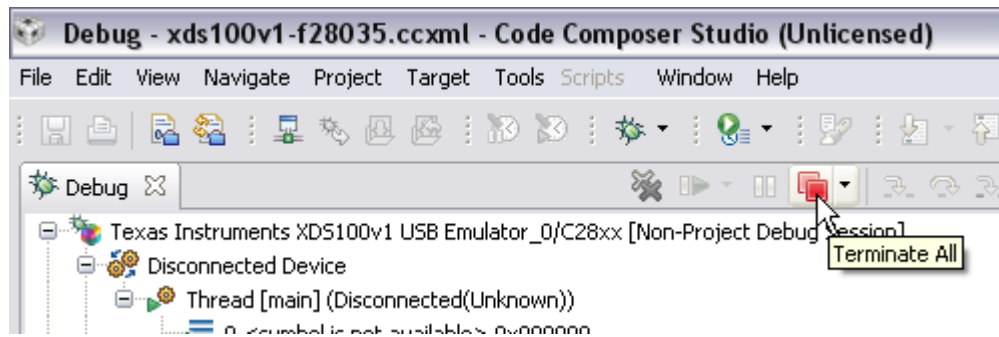

Figure 7. CCS Terminate All
14. Click "Terminate All" (see Figure 7) and close CCStudio.